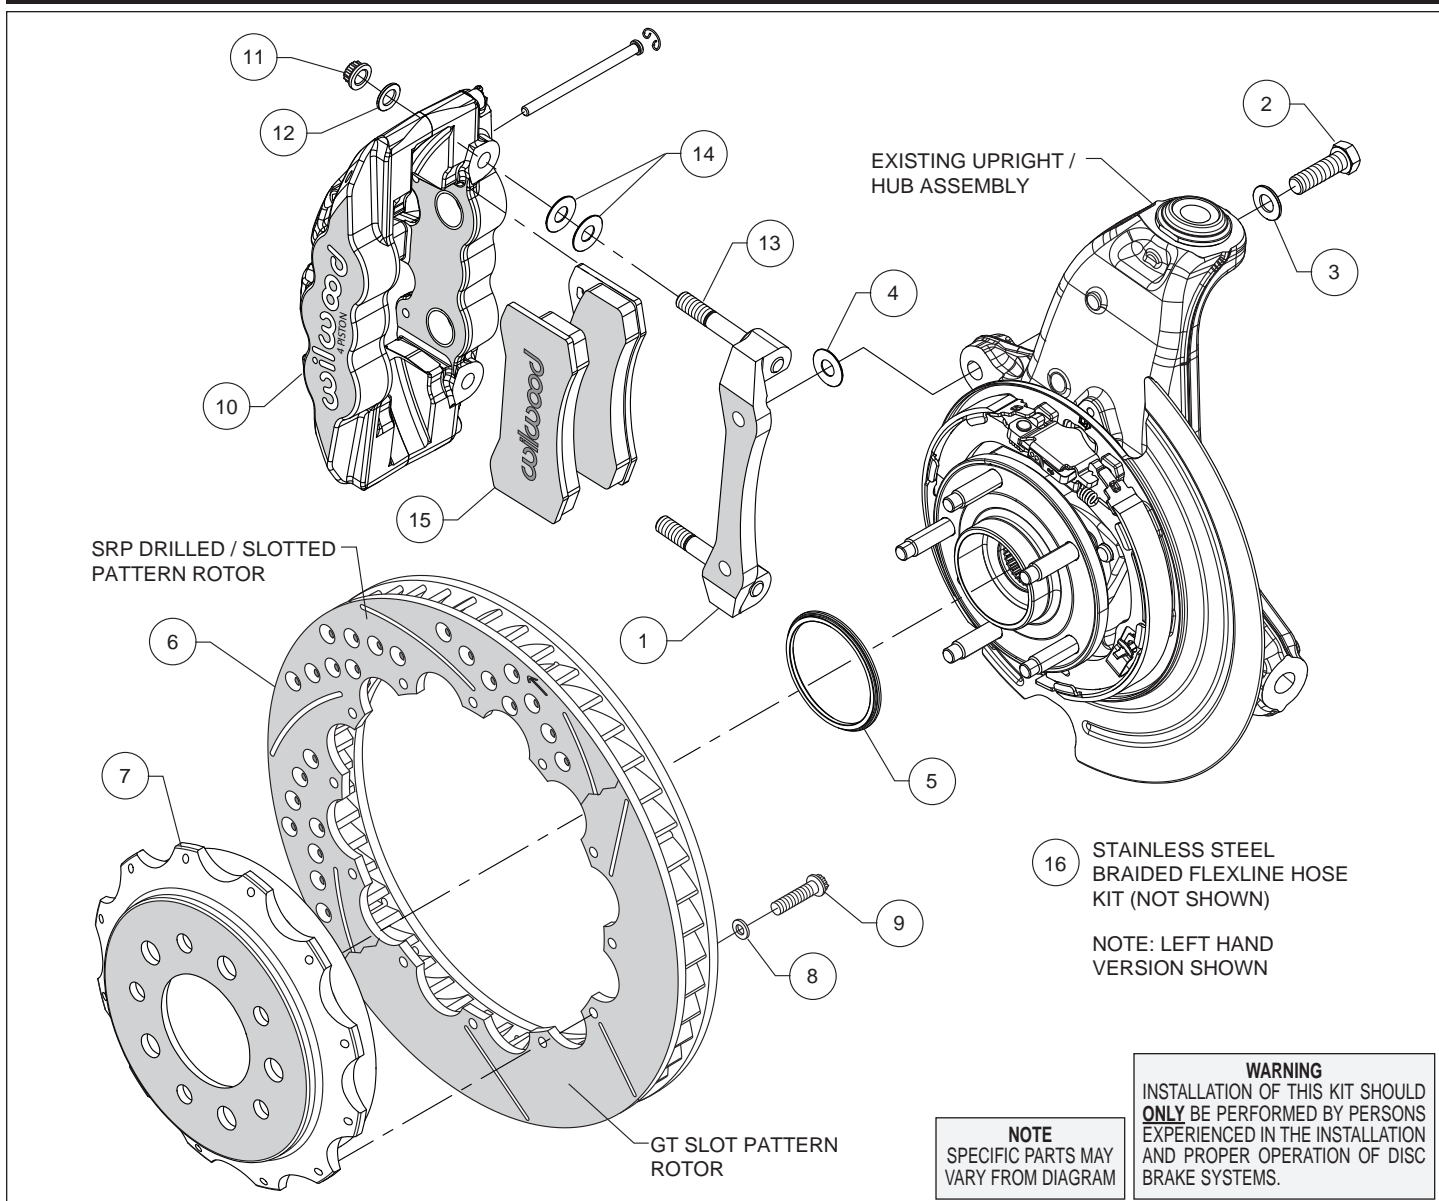
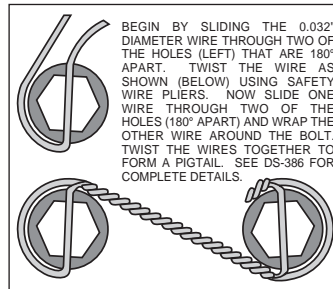

Figure 1. Typical Installation Configuration
Figure 3. Safety Wire Diagram
Assembly Instructions (numbers in parenthesis refer to the parts list and Figure 1 on the preceding pages):
- The caliper mount bracket (1) should initially be installed with clean, dry threads on the mounting bolts. Orient the bracket as shown in Figure 1, and Photo 1, and install using bolts (2) and washers (3). Initially place one .033" thick shim (4) on each bolt between the bracket and upright, Figure 1. Temporarily tighten the mounting bolts. **NOTE:** *The bracket must fit squarely against the mount bosses on the upright.* Inspect for interference from casting irregularities, machining ridges, burrs, etc. Later, after the caliper alignment has been checked, the mount bolts will be secured using red *Loctite*[®] 271.
- Orient the rotor (6) and the hat (7) as shown in Figure 1 and Photo 2. Attach rotor to hat using bolts (9) and washers (8). Using an alternating sequence, apply red *Loctite*[®] 271 to the threads, and torque to 140 **in-lbs**. For an added measure of security, the bolts may be safety wired using standard 0.032 inch diameter stainless steel safety wire as shown in Figure 3.
- Slide the rotor registration adapter (5) onto the axle register on the axle hub with the smaller O.D. facing outward, Photo 3. Slide the hat/rotor assembly onto the axle hub. **NOTE:** *The hat must fit flush against the axle hub flange or excessive rotor run out may result.* Install three lug nuts (finger tight) to keep the hat/rotor assembly in place while continuing with the installation, Photo 4.
- NOTE:** *This kit contains distinct right and left hand calipers. The calipers must be mounted with the bleed screws pointing upward.* Lubricate the caliper mounting studs (13) with lightweight oil. Initially place two .030" thick shims (14) on each stud as shown in Figure 1 and Photo 5. Mount the caliper (10) onto the bracket (1) using lock nuts (11) and washers (12), Figure 1. Temporarily tighten the lock nuts and view the rotor through the top opening of the caliper. The rotor should be centered in the caliper, Photo 6. If not, adjust by adding or subtracting shims (4) between the bracket and the upright. Always use the same amount of shims on each of the two mounting bolts. Once the caliper alignment is correct, remove the bracket mounting bolts (2) one at a time, apply red *Loctite*[®] 271 to the threads, and torque to 60 ft-lb.
- Remove the two pad retaining pins from the caliper (10) by carefully popping out the pin retaining clips and sliding out the pins. Insert the brake pads (15) into the caliper from the bottom, Figure 1 and Photo 7. With the friction material facing the rotor, secure the brake pads in place with the pad retaining pins and clips, Photo 8. Reinstall the caliper onto the caliper mounting bracket and temporarily tighten the lock nuts. Check that the top